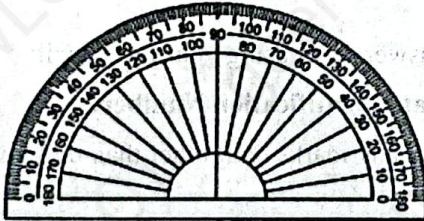

Figure 2
4. Figure 2 below shows a drawing instrument graduated in